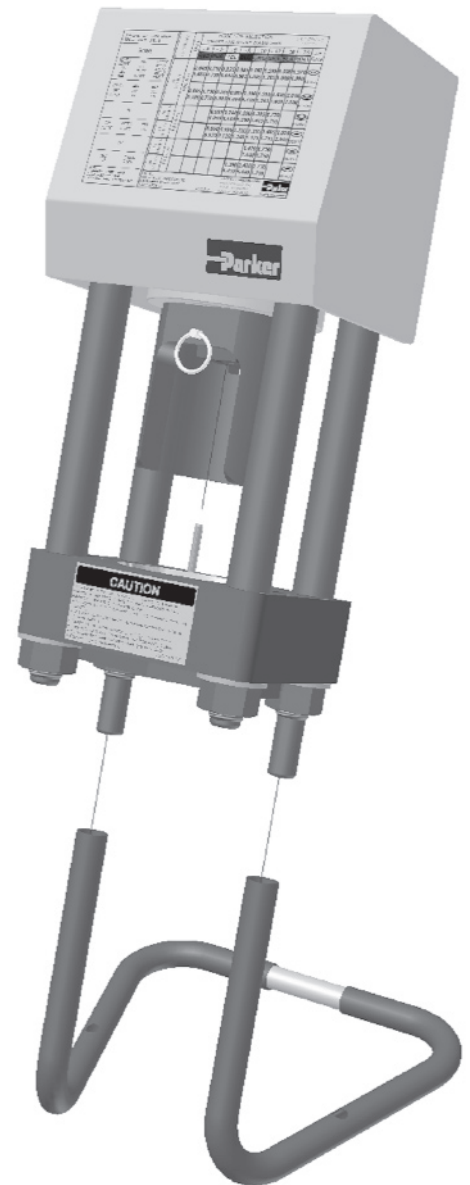

Figure 2
2. Assemble crimper base unit to stand as shown in Figure 2. Place machine on sturdy bench. It is recommended that the machine be bolted to the bench. Two 1/2" holes are provided in the stand for this purpose. Make sure crimper base overhangs bench to allow access from below base plate.